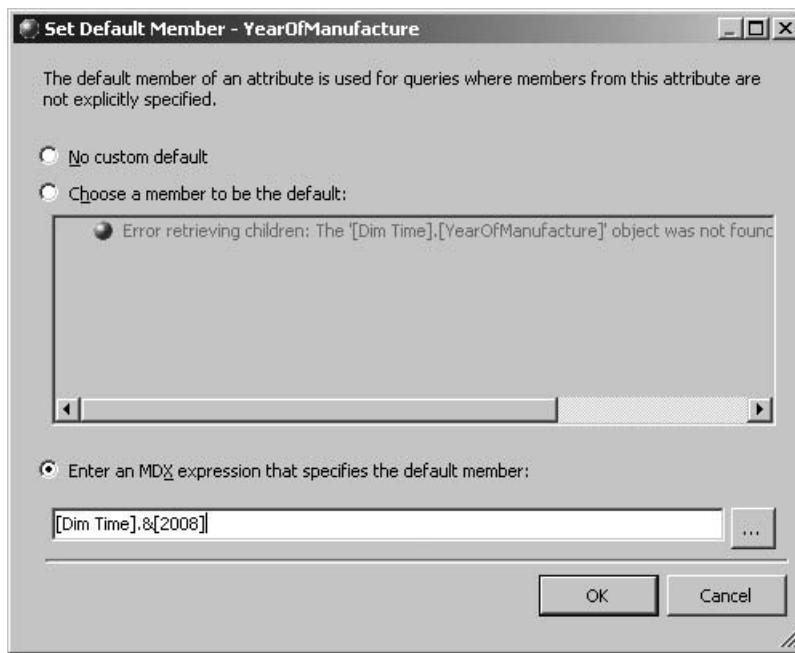

Figure 11-12 The Set Default Member dialog box
7. Enter **[Dim Time].&[2008]**. The Set Default Member dialog box appears, as shown in Figure 11-12.